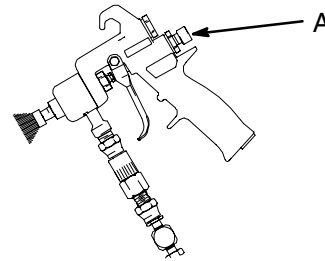

Fig. 1
2. If more flow is needed to saturate the brush, open the needle valve (A) on the dispense valve or gun up to an additional turn to increase the flow (Fig. 1). If more pressure is required, adjust the back pressure regulator. If necessary to maintain pressure, increase the air regulator setting to the supply pump.